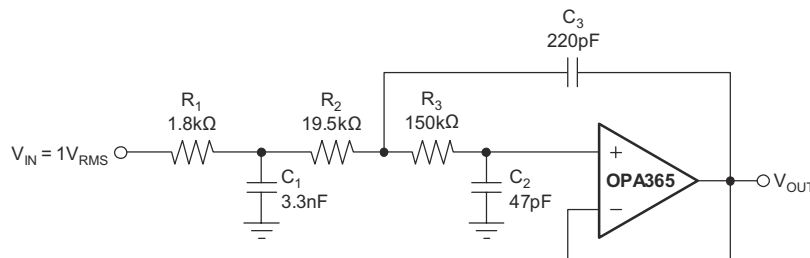

Figure 8-4. Configured as a 3-Pole, 20 kHz, Sallen-Key Filter
3. using a noninverting filter topology such as the Sallen-Key (shown in Figure 8-4).